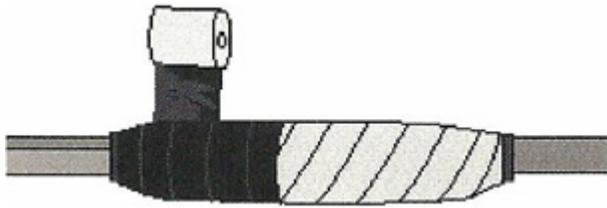

Figure 14
- 4. If using DR tape: Apply one tightly-wrapped layer of half-lapped DR tape, beginning at the center of the splice bundle and working toward one sealant collar. Repeat the taping from the center to the opposite sealant collar. Refer to Figure 14.